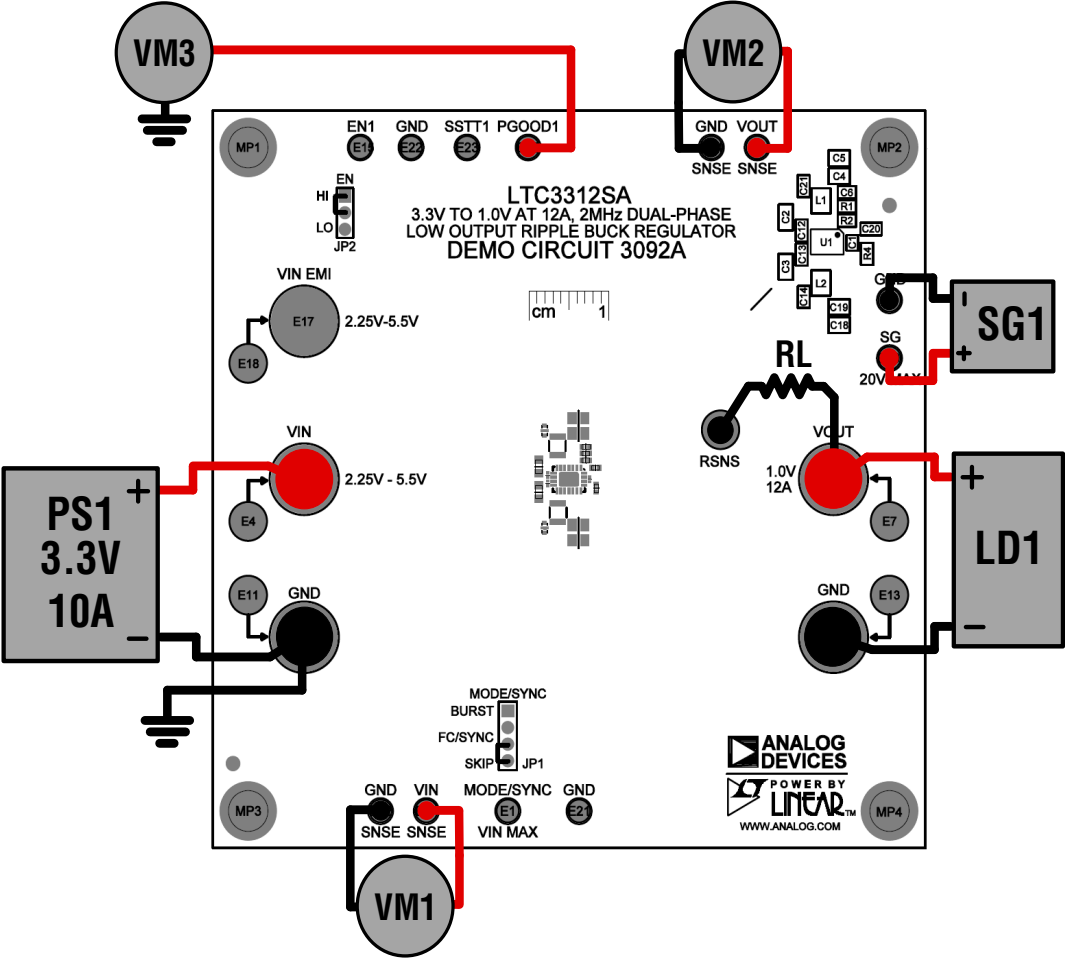

Figure 2. Test Setup for DC3092A Demo Board
Refer to Figure 2 for the proper measurement equipment setup and follow the procedure below:
1. Connect PS1, LD1, VM1, VM2 and VM3 as shown in Figure 2. If the input EMI filter is desired, connect the input power supply to VIN EMI and GND.
8. To test the transient response with a base load, add the desired resistor to produce a minimum load between VOUT and RSNS1 turrets (RL shown on Figure 2). Note that the total load resistance will be RL plus R11 (20m Ω). Adjust a signal generator with a 10ms period, 10% duty cycle and an amplitude from 1V to 2V to start.